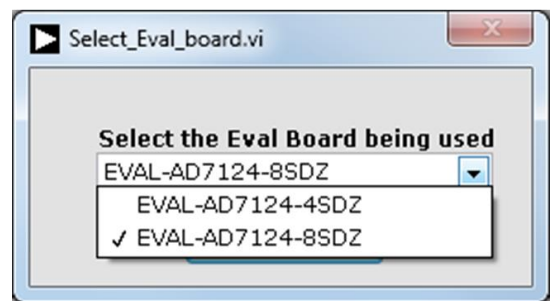
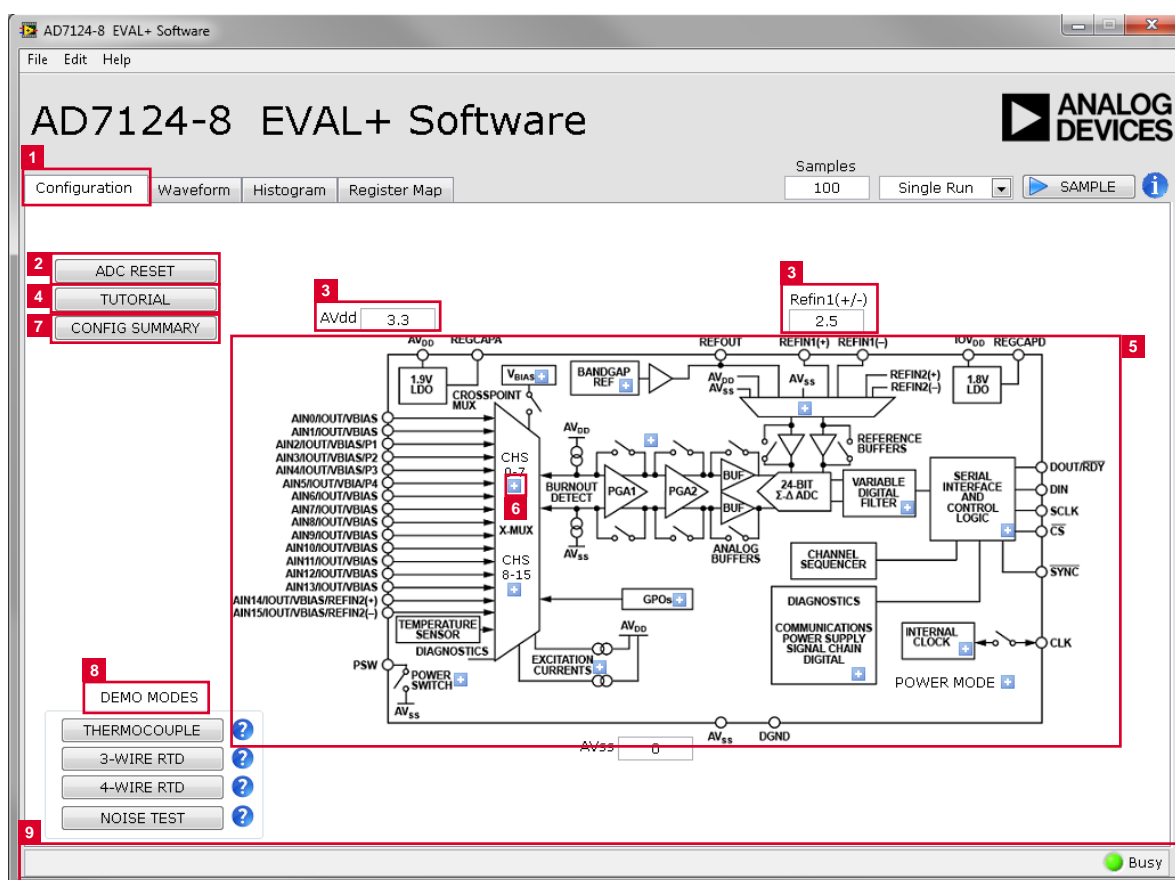

Figure 19. AD7124 Evaluation Board Selection
Figure 20. Configuration Tab of the AD7124-8 EVAL+ Software
1. From the Start menu, click **Programs > Analog Devices > AD7124 Eval+ > AD7124 Eval+**. The dialog box in Figure 19 appears; select **EVAL-AD7124-8SDZ**, and the main window of the software then displays as shown in Figure 20.
When running the software, the specific evaluation board connected to the pc can be selected as shown in Figure 19. For the AD7124-8, select **EVAL-AD7124-8SDZ** from the drop-down menu as shown in Figure 19.
When selecting EVAL-AD7124-8SDZ, the main window of the evaluation software displays, as shown in Figure 20. Figure 20 shows the control buttons and analysis indicators of the AD7124-8 EVAL+ Software. The main window of the AD7124-8 EVAL+ Software contains four tabs:
The **Configuration** tab shows a block diagram of the AD7124-8. It allows the user to set up the ADC, reset the ADC, read the diagnostics to view errors present, as well as configure the device for different demo modes. Figure 20 shows the **Configuration** tab in more detail, and the following sections discuss the different elements on the **Configuration** tab of the software window.
Click the **NOISE TEST** demo button (Figure 20) to configure the device for the noise test. The AD7124-8 is now configured for the noise test demo, where the output data rate is 9.38 SPS, where the sinc⁴ digital filter, full power mode of operation, and external reference REFIN1(±) is selected. Gain and offset are the default factory values following a reset.